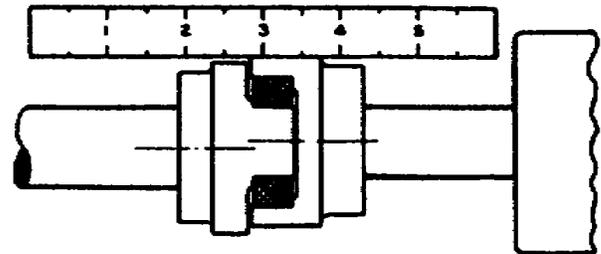

Figure 82. Checking parallel alignment.
- (1) Tighten the foundation bolts.
- (2) Tighten the pump and motor holddown bolts.
- (3) Check the gap and angular adjustment as discussed previously.
- (4) Check parallel alignment by laying a straightedge across both coupling rims at the top, bottom, and both sides, as shown figure 82. The unit will be in horizontal parallel alignment when the straightedge rests evenly on both halves of the coupling at each side. In some special services a wide differential will prevail between the operating temperatures the pump and motor. Adjustment of alignment to satisfy such operating conditions must be governed by the specific application. The vertical difference of the shafts should be measured with a straightedge and feelers. To establish parallel alignment, thin shim stock is placed under the motor base. Occasionally, shims may be required under the pump base.
- (5) Remember, alignment in one direction may alter the alignment in another. Check through each alignment procedure after making an alignment alteration.